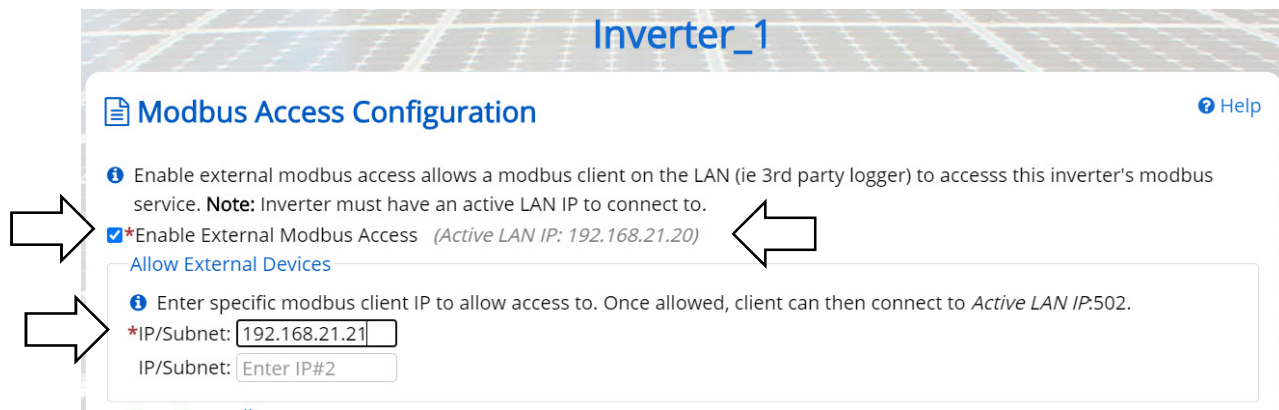

Fig. 5-8. Enabling external Modbus access, static routing
- Listed as **Active LAN IP** on the **Modbus Access Configuration** page, see Fig. 5-8